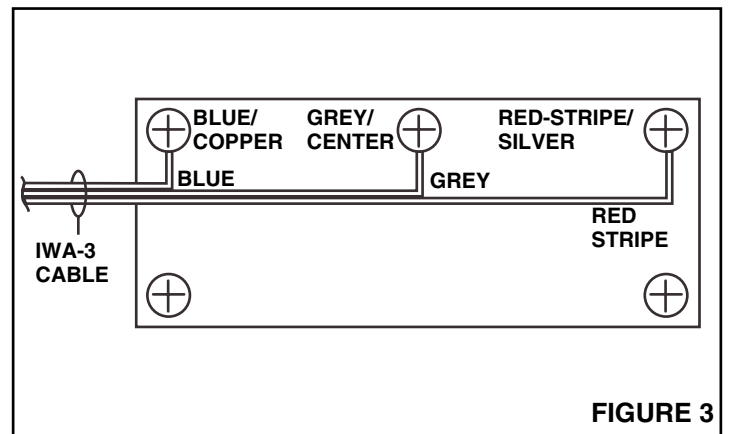

FIGURE 3
2. Refer to Figure 3. Connect color-coded wires (IWA-3 cable) from master unit to the matching terminal screws on the patio speaker's printed circuit board as follows: red stripe wires to terminal marked RED-STRIPE/SILVER; grey wire to terminal marked GREY/CENTER; blue wire to terminal marked BLUE/COPPER.